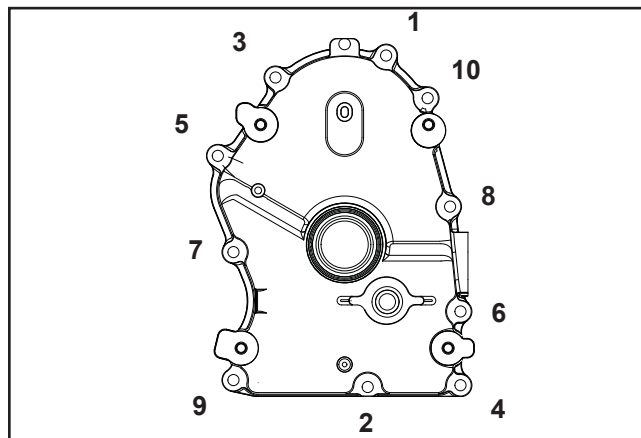

Figure 10-26. Oil Pan Fastener Torque Sequence.
6. Install the ten hex flange screws securing the oil pan to the crankcase. Torque the fasteners in the sequence shown in Figure 10-26 to **24.4 N·m (216 in. lb.)**. On some engines one of the ten mounting screws is plated. The plated screw is typically installed in the #6 hole shown in Figure 10-26.